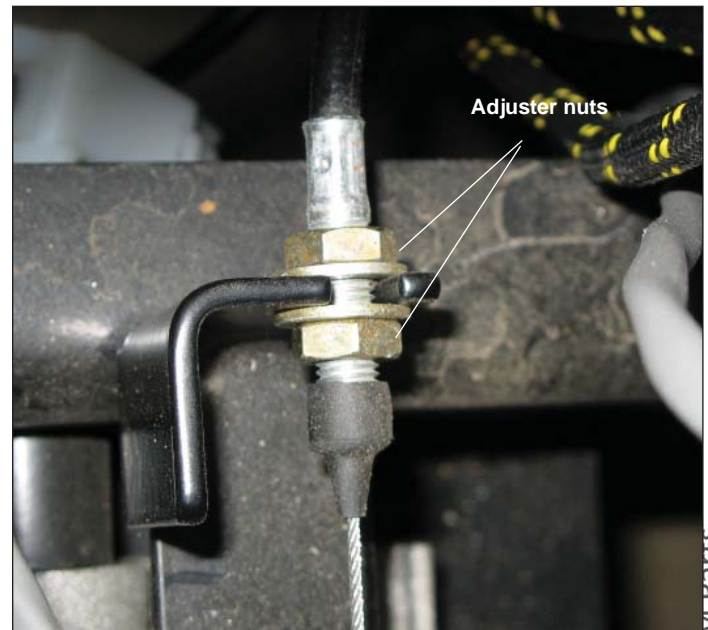

Figure 5-14. Linear Accelerator Adjustment
1. Loosen the adjuster nuts on the accelerator cable (Figure 5-14).